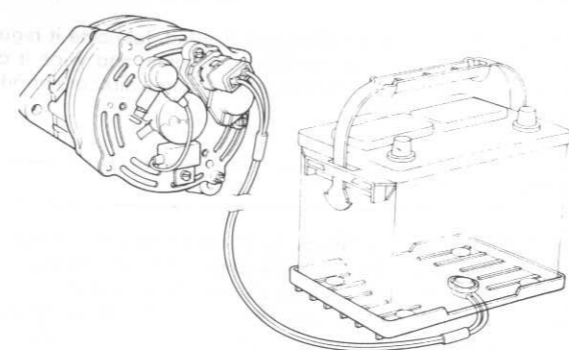

Fig. 12.1 Alternator with battery temperature sensor (Sec 7)
- 9 Later models vary the charge rate according to battery temperature (Fig. 12.1). In the event of failure or disconnection of the battery temperature sensor, the alternator will vary the rate according to its own internal temperature.